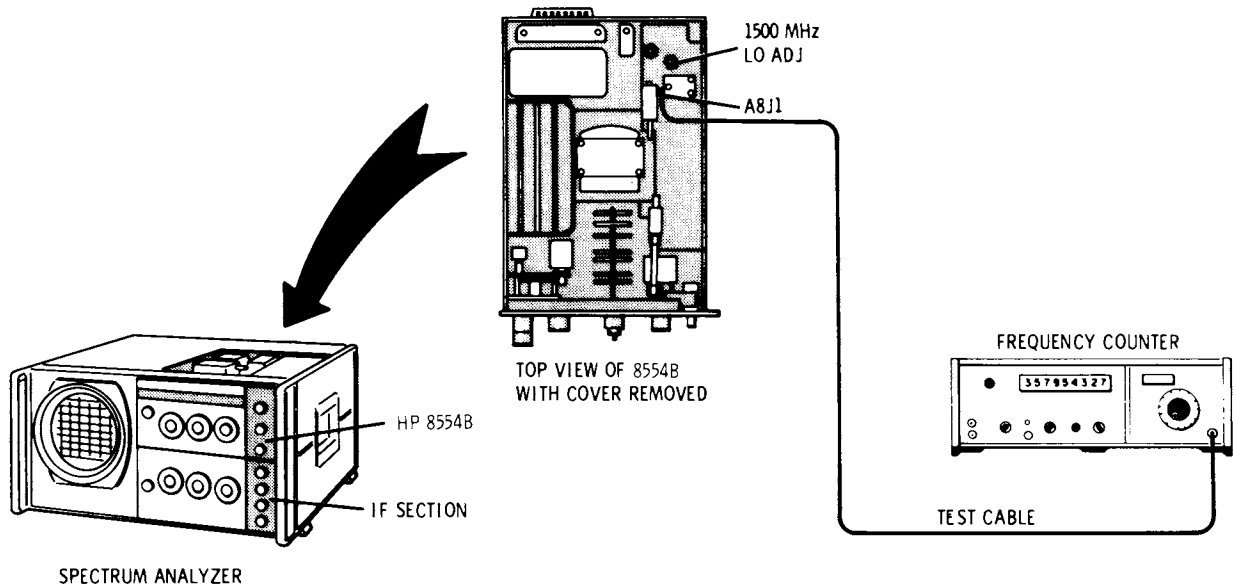

Figure 5-5. 1500 MHz Local Oscillator Adjustment Test Setup
4. With test setup shown in Figure 5-5, make the following control settings: